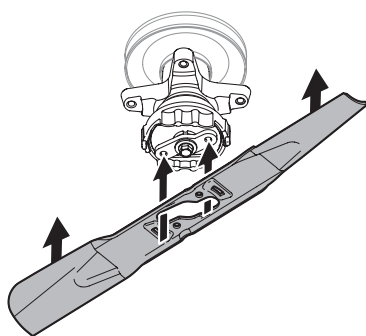

Figure 48
- Position the blade under the spindle assembly and carefully align the large opening in the center of the blade over the tractor blade retainer. See Figure 48.